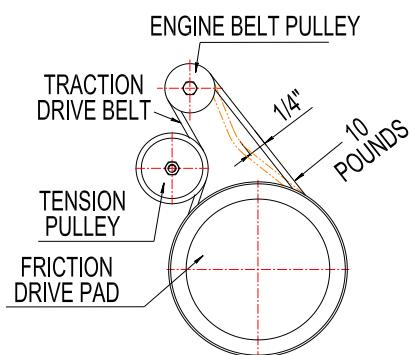

FIG 27
**6.10.1** Adjust the belt with 10 pounds of pressure. If the belt moves  $1/4"$ , it is all right. If not, you should adjust the belt. (FIG 27)